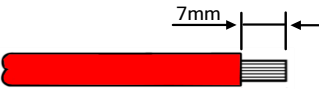
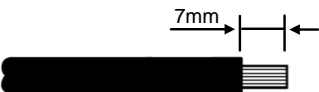

Figure3-14 Positive wire
Figure3-15 Negative wire
- Step 2 Strip the insulation layer of positive wire and negative wire for about 7mm by wire stripper, as shown in Figure3-14 and Figure3-15.